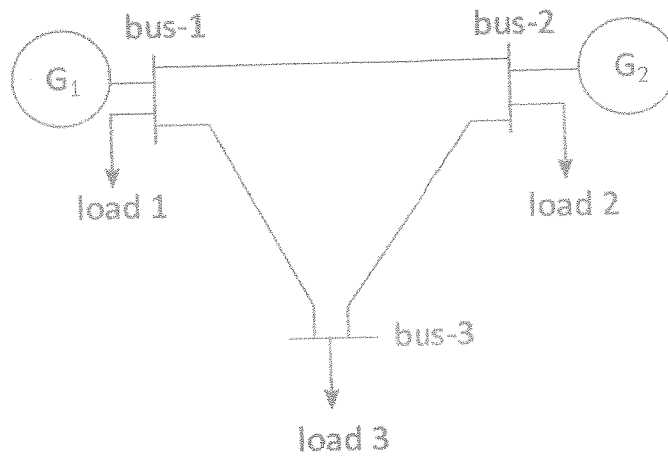

Figure Q4 (a)
Q4 a) Figure Q4 (a) shows an interconnected power system with three buses. The system consists of two hydro generating units. The system is designed such that the changing load is shared by two generating units.
b) The rated load on the system shown in Figure Q4 (a) is 140 MW. The power ratings of generators G_1 and G_2 are 70 MW and 80 MW, respectively. The system design at *rated loading condition* is as follows.